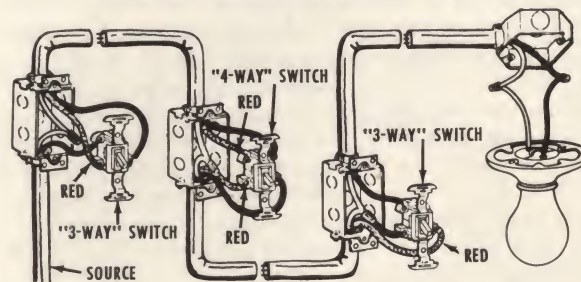

FIG. 56—"4-WAY" SWITCH INSTALLATION
**"4-WAY" SWITCH HOOK-UPS.** Fig. 56 illustrates how a 4-Way switch is installed in conjunction with two 3-Way switches, so light may be controlled from 3 or more points.